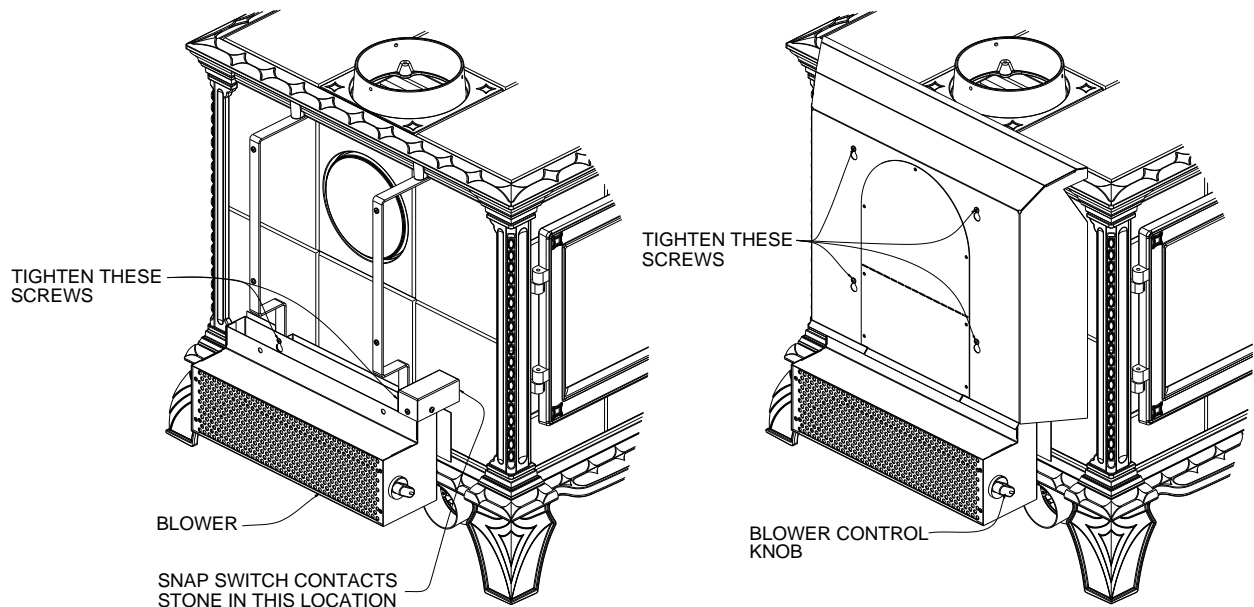

Figure 2
3. With the perforated screen facing away from the stove back (as illustrated below), position the blower so that the screws securing the heat shield extension pass through the key holes in the back of the blower, then push down to catch the screws (Figure 2).